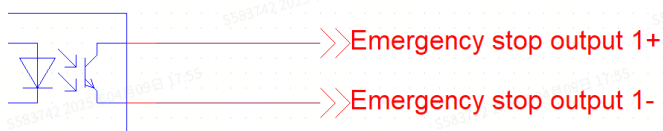

Figure 2-6
- The SRC-F10\SRC-R10 has a set of independent dry contact switches, which are used as emergency stop output signals. The output signal pins are distributed at 13/14 pins of J2 connector, and the maximum output is 120mA. See "Figure 2-6" for the logic diagram of emergency stop output.